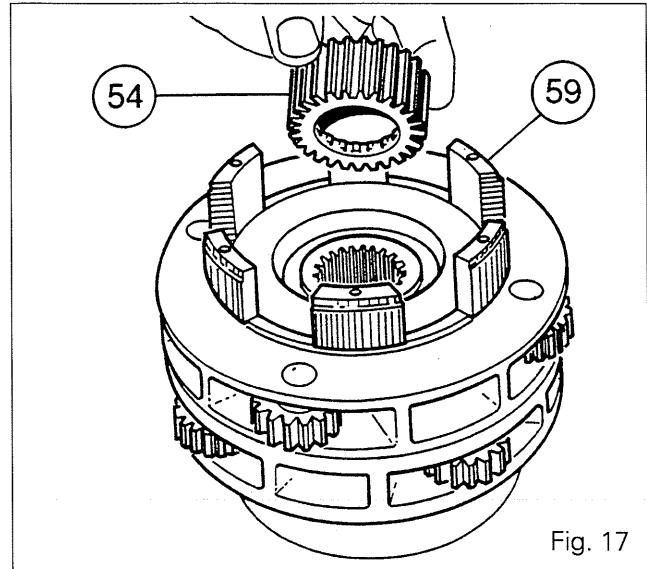

Fig. 17
47. Turn the planetary carriers over so as to gain access to the bolts (46). Fit the secondary sun gear (61), the housing (59) and the hub (54), with the internal splines facing downwards (Fig. 17). Install the discs (50), the driven plates (48), the brake plate (45) and the Belleville springs /52\ as per Fig. 1, and then the cover (47).